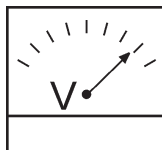

Figure 45. Voltmeter
- The generator's AC-voltmeter (Figure 45) will display the generator's output in **VOLTS**. If the voltage is not within the specified tolerance,.